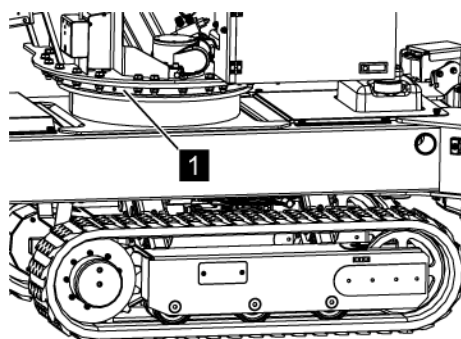

Fig. 231: Lubricating the rotating assembly
2. → Apply a grease gun to the grease nipples (4 x) on the rotating assembly (Fig. 231/1) and inject multi-purpose grease.